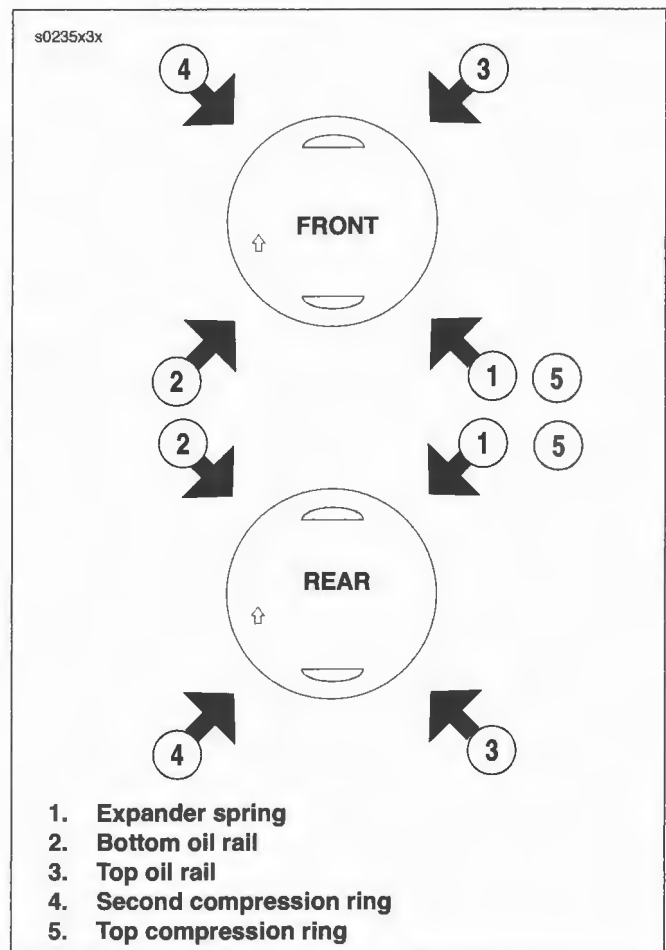

Figure 3-123. Piston Ring Alignment
- h. See Figure 3-123. Verify the ring gaps are still properly staggered.